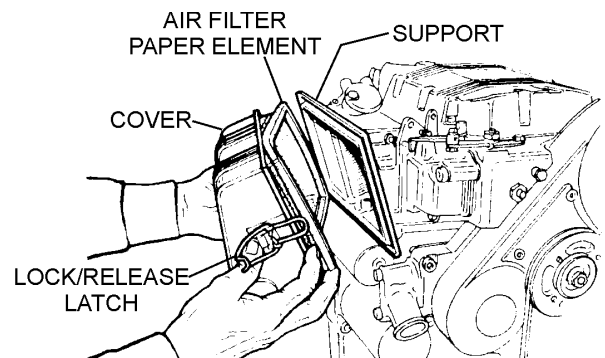

Figure 24. Air Cleaner Components
1. Release the locking latch and remove the air filter paper element as shown in (Figure 24).